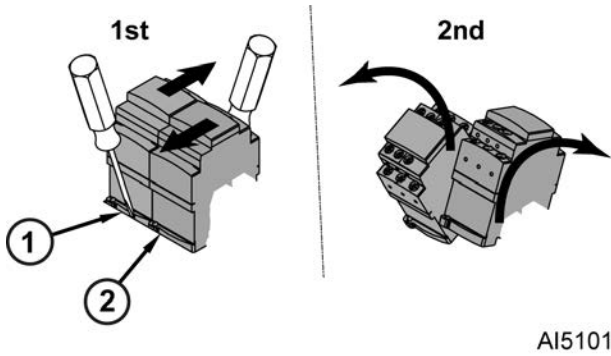

Fig. 18
- A. Push contactor (1, Fig. 18) towards **front** of oven until it releases from mounting base.
4. Remove contactor Kr (2, Fig. 18) as follows: